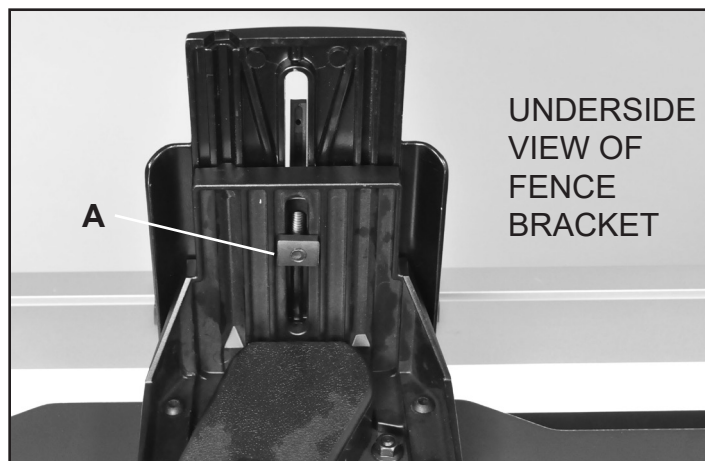

FIG. 5
5. With the tilt lock lever assembly in place on the positioned fence sliding bracket and fence bracket, put the special rectangular shaped Nut (A) onto the lever handle's threaded shaft. Turn the lever to engage the nut and lock both brackets together into position. FIG. 5.